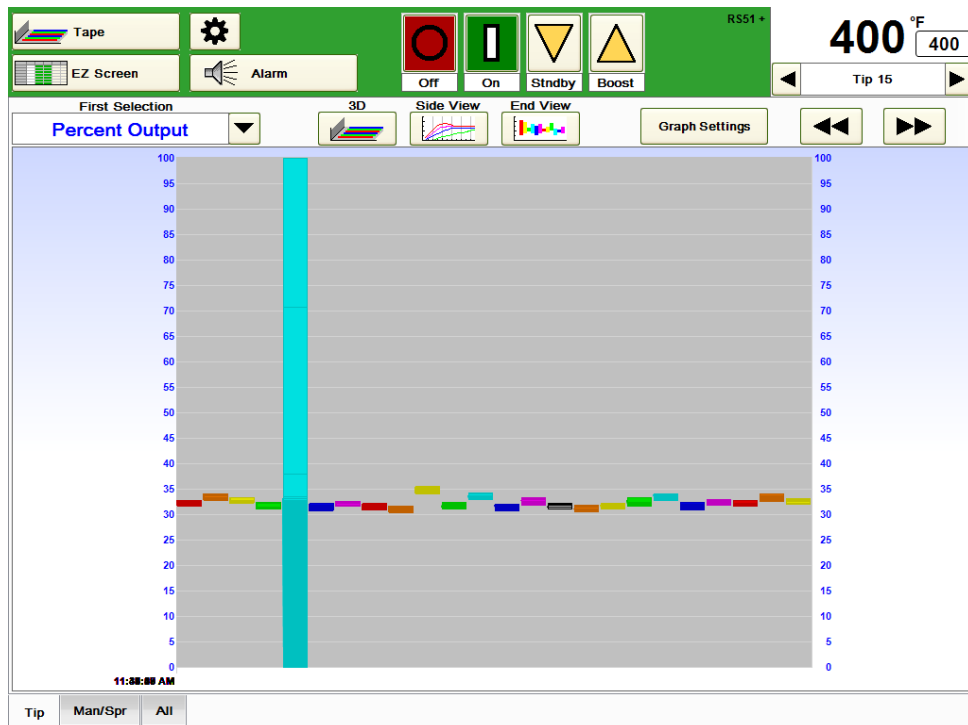

Figure 7k Tape Graph – End View
- c) End View – shown in Figure 7k. This view is useful in showing the relative stability of the zone. If one zone has more swing in a variable, it may be less stable than the other zones.